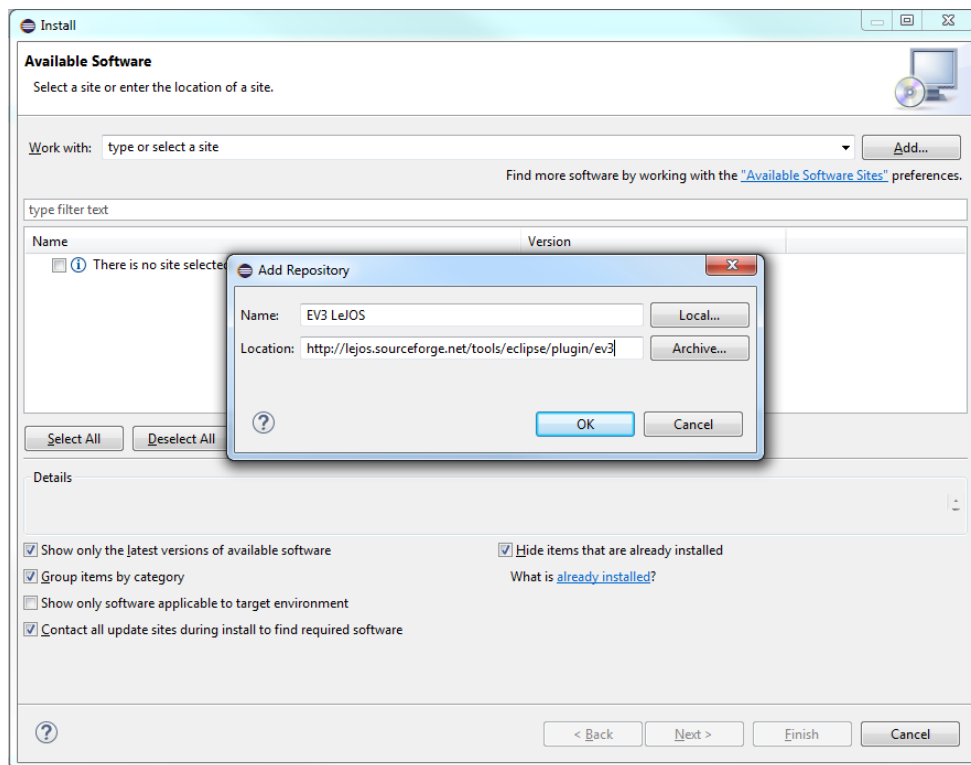

Figure 11
5. Give the repository a name such as "EV3 LeJOS". Then enter the URL <http://lejos.sourceforge.net/tools/eclipse/plugin/ev3> in the Location text box and click OK.(see Figure 11)